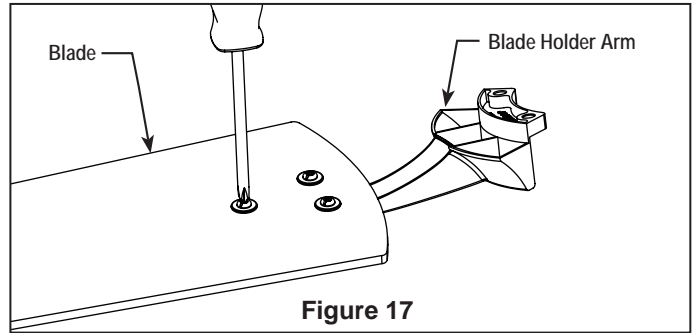

Figure 17
3. Position the blade over the blade holder with threaded posts showing. Make sure the bottom edge of the blade is fully seated against the blade arm. With a phillips screwdriver, tighten 3/16-24 x 7.5 mm washer head screws and fiber washers to secure the blade to the blade arm. (Figure 17)